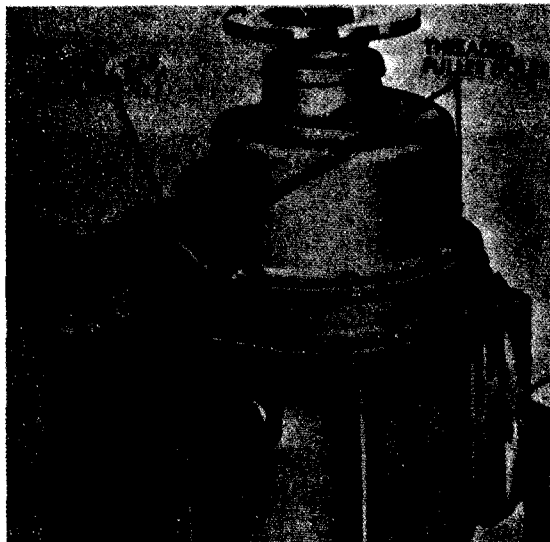

Figure 206. Lifting front output shaft case assembly from transfer
(3) Insert two of these same cap screws in the threaded puller holes provided for removing the front output shaft case. Turn down puller screws (fig. 206) un-